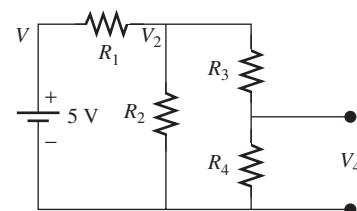

FIGURE P14.5 Resistor network.
- 14.5 (H)*** A resistor network is shown in Figure P14.5, $R_1 = 5 \text{ k}\Omega \pm 10\%$, $R_2 = 10 \text{ k}\Omega \pm 20\%$, $R_3 = 2 \text{ k}\Omega \pm 10\%$, and $R_4 = 8 \text{ k}\Omega \pm 5\%$. Calculate the maximum and minimum value of V_4 .